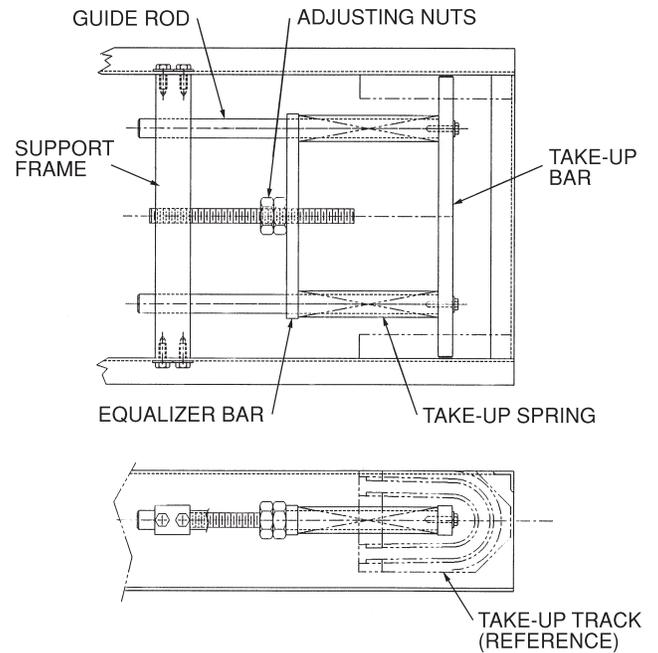
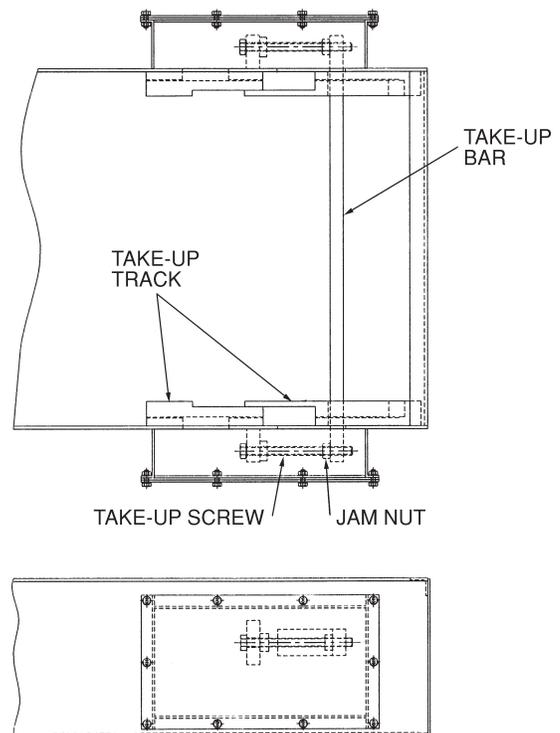

FIGURE 9
FIGURE 10
Figure 9 shows Model 5 and 6 with spring take-up. Figure 10 shows Models 8, 9, 11 and 12 with screw adjustable take-up.
To service the spring take-up assembly the first step is to remove the slider plate (see Figure 9). With the slider plate removed, inspect the spring take-up assembly. Any damaged parts can be ordered from Eriez. To replace springs, relieve tension by loosening the 5/8-11 nuts. Then remove the (2) 1/4-20 bolts and move the equalizer bar back. When replacing springs, replace all of them.